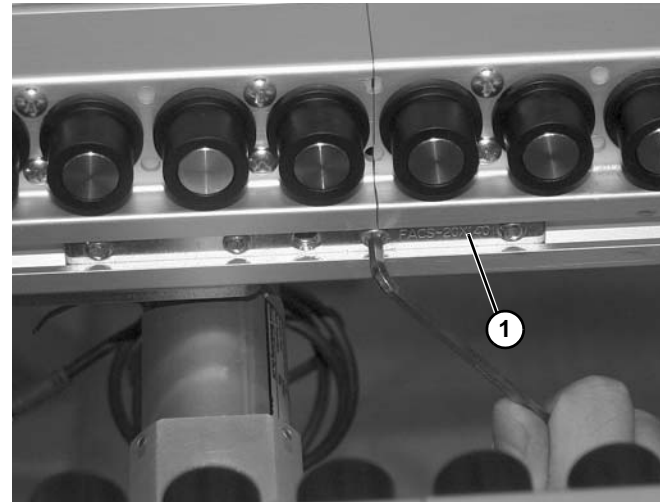

Figure 84
1. For installing conveyor to pallet pusher, install studs (**Figure 84, item 1**) and/or spring nuts into conveyor channels.